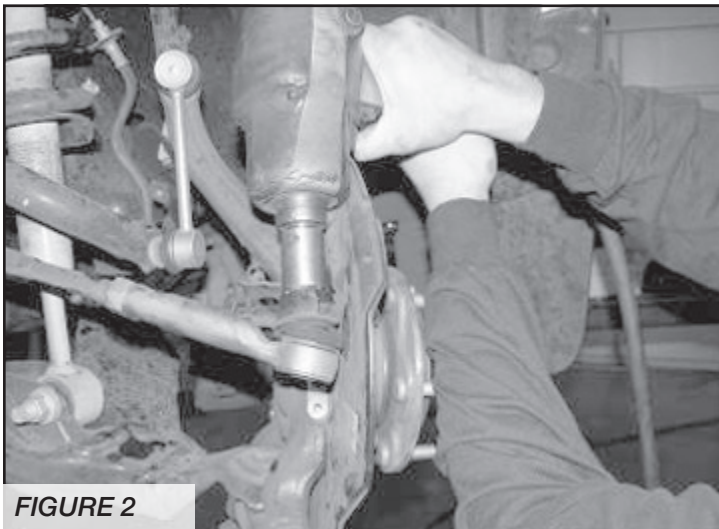

FIGURE 2
4. Remove the nut from the tie rod ends. Disconnect the tie rod ends from the steering knuckle by striking the knuckle with a large hammer to dislodge the tie rod end. Use care as to not hit the threads on the tie rod end with the hammer as you will damage them. Save all hardware. **SEE FIGURE 2**